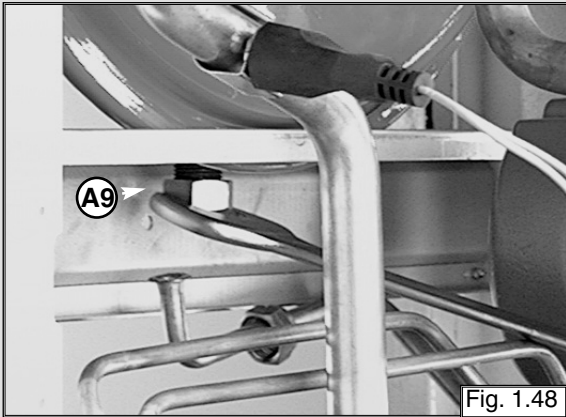

Fig. 1.48
2. Remove nut "A9" (see fig. 1.48);
It is possible to by-pass the time clock in the event of failure by simply unplugging the electrical connection from the P.C.B. (see fig. 1.48). This will revert control of the central heating to the room stat connection on the reverse of the control panel.